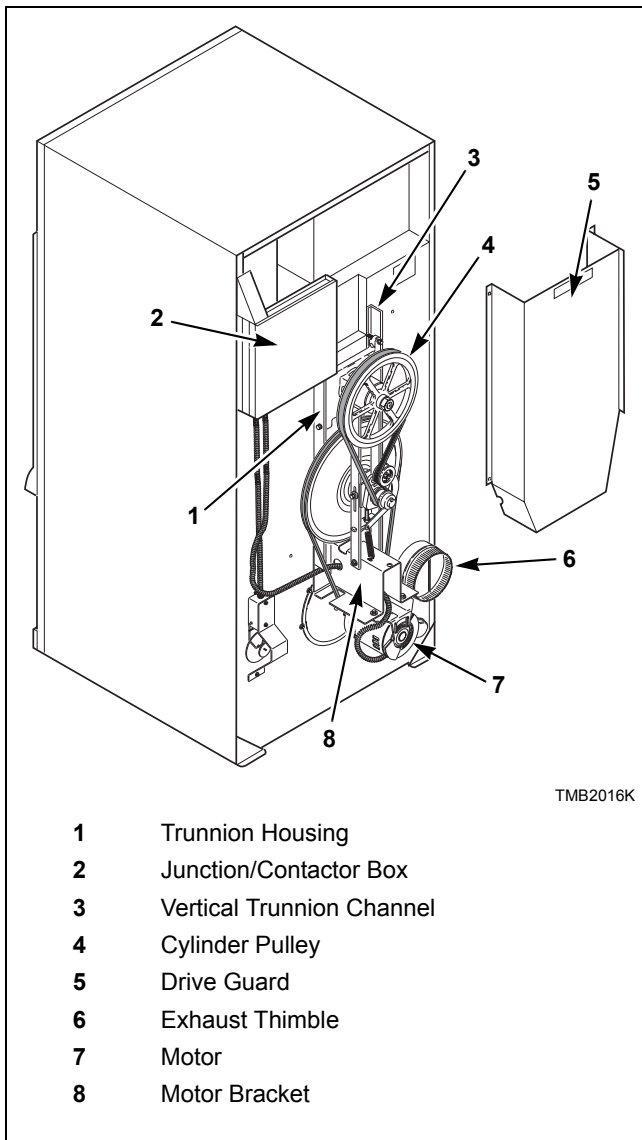

Figure 4
2. Remove the drive guard. Refer to *Figure 4*.
3. Remove the drive belts. Refer to *Figure 4*.
8. Remove the trunnion housing. Refer to *Figure 4*.
10. Remove the motor(s) and motor bracket(s). Refer to *Figure 4*.
12. Remove the junction/contactactor box. Refer to *Figure 4*.